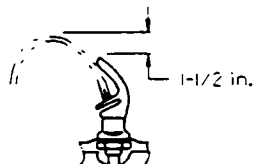

FIG. 4
- 10). Stream height is factory set at 45-50 PSI. If supply pressure varies greatly from this, readjust stream height to approximately 1-1/2" above the bubbler guard by turning adjustment screw, accessible by removing front push panel. (See Figures 4 & 5)